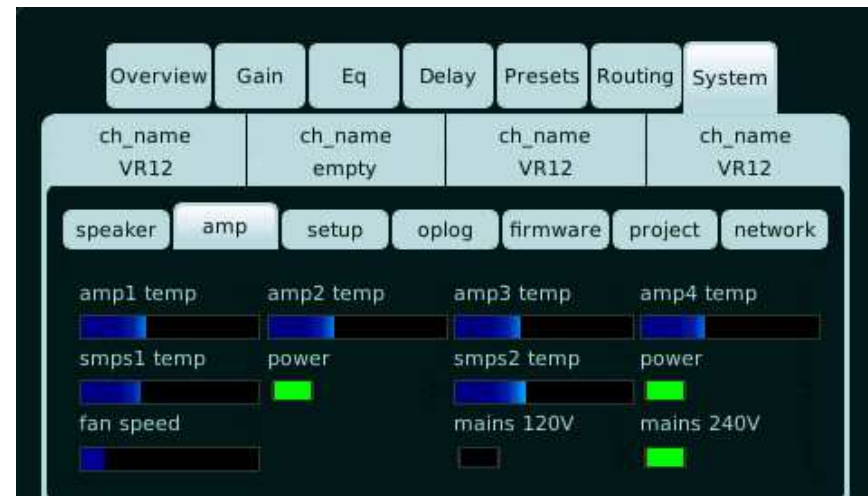

Fig 22. Amplifier status, temperature scales, fan speed level 1, AC mains 240V indication
7.7.2 Amp - this sections indicates the temperature of the power supplies (“SMPS” 2x) and amplifier stages (“amp” 4x) through a color scale from blue to red. (see fig.22)